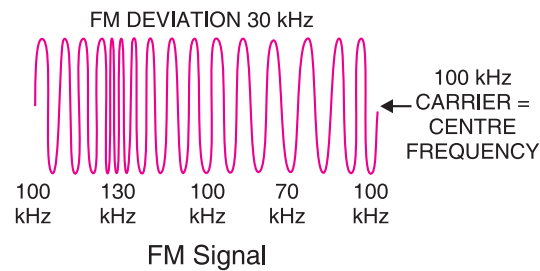

Fig. 16.13
Illustration. The process of frequency modulation (FM) can be made more illustrative if we consider numerical values. Fig. 16.13 shows the FM signal having carrier frequency $f_c = 100 \text{ kHz}$. Note that FM signal has constant amplitude but varying frequencies above and below the carrier frequency of 100 kHz ($=f_c$). For this reason, f_c ($= 100 \text{ kHz}$) is called **centre frequency**. The changes in the carrier frequency are produced by the audio-modulating signal. The amount of change in frequency from f_c ($= 100 \text{ kHz}$) or **frequency deviation** depends upon the amplitude of the audio-modulating signal. The frequency deviation increases with the increase in the modulating signal and vice-versa. Thus the peak audio voltage will produce maximum frequency deviation. Referring to Fig. 16.13, the centre frequency is 100 kHz and the maximum frequency deviation is 30 kHz . The following points about frequency modulation (FM) may be noted carefully :